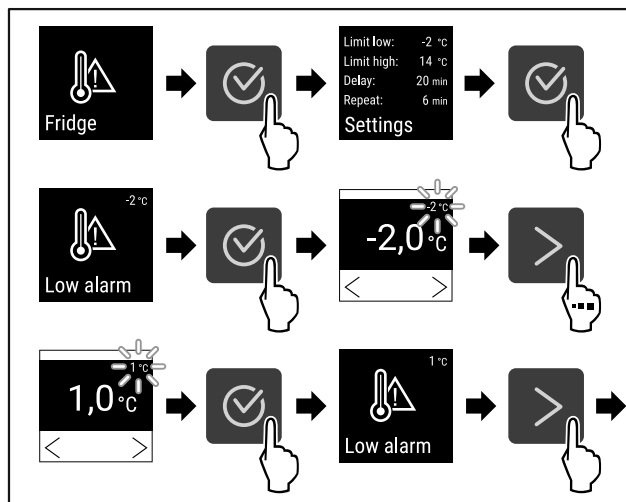

Fig. 126
- ▶ Complete steps (see Fig. 126).